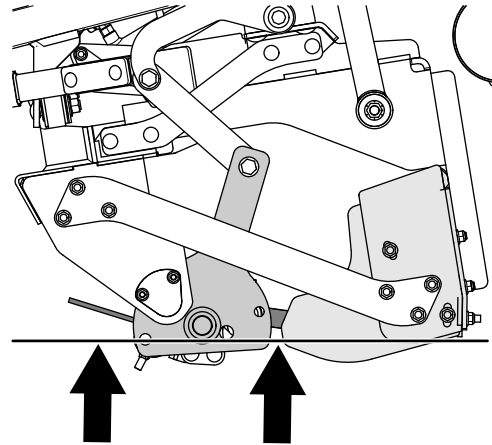

Figure 50
4. Tilt the multi-tool carrier backward (Figure 50) until the tines are aligned higher than the bottom of the grader blade; refer to Tilting the Mid-Mount Attachment Forward \(page 30\).